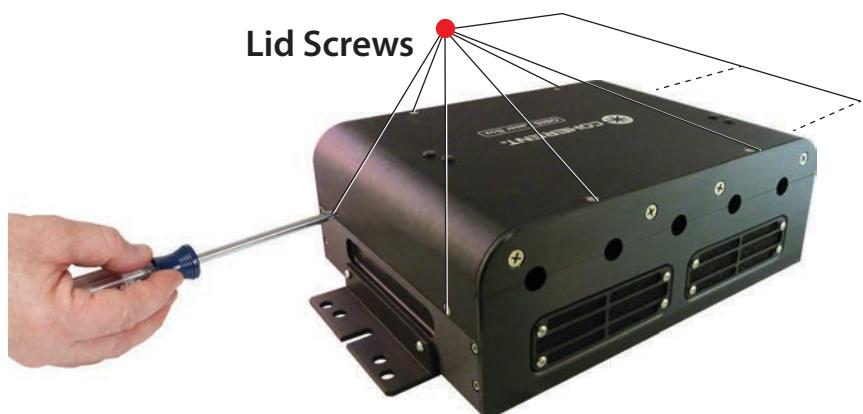

Figure 12-15. OBIS Laser Box Removing the Laser Box Lid
2. Remove the eight lid screws shown in Figure 12-15 and take off the lid.